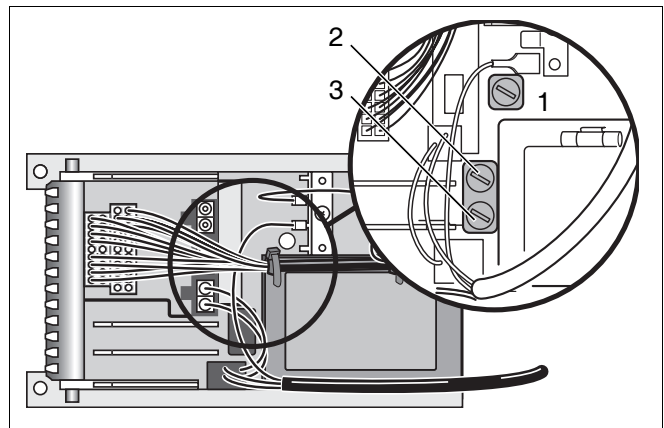

Fig. 57 Checking the miniature fuse
- Check miniature fuses (fig. 57) for correct functioning, or carry out visual inspection. If defective, fit new fuse (1.25 AT).